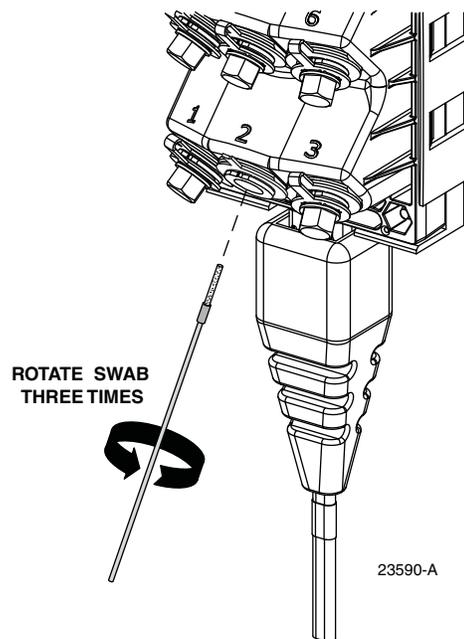

Figure 19. Typical Cleaning of an Optical Port Connector and Adapter
4. Insert a dry swab into the adapter as shown in Figure 19.